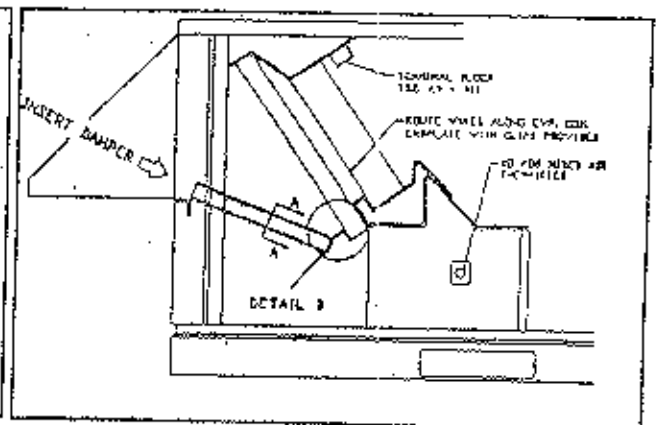

Figure 3
7. Install Mixed Air Thermister into round KO in location shown in Figure 3. Route wires included through bushing at drain pan and along evaporator coil assembly using clips provided. Connect two wires to terminal block, TB2, terminals A9 & A10.